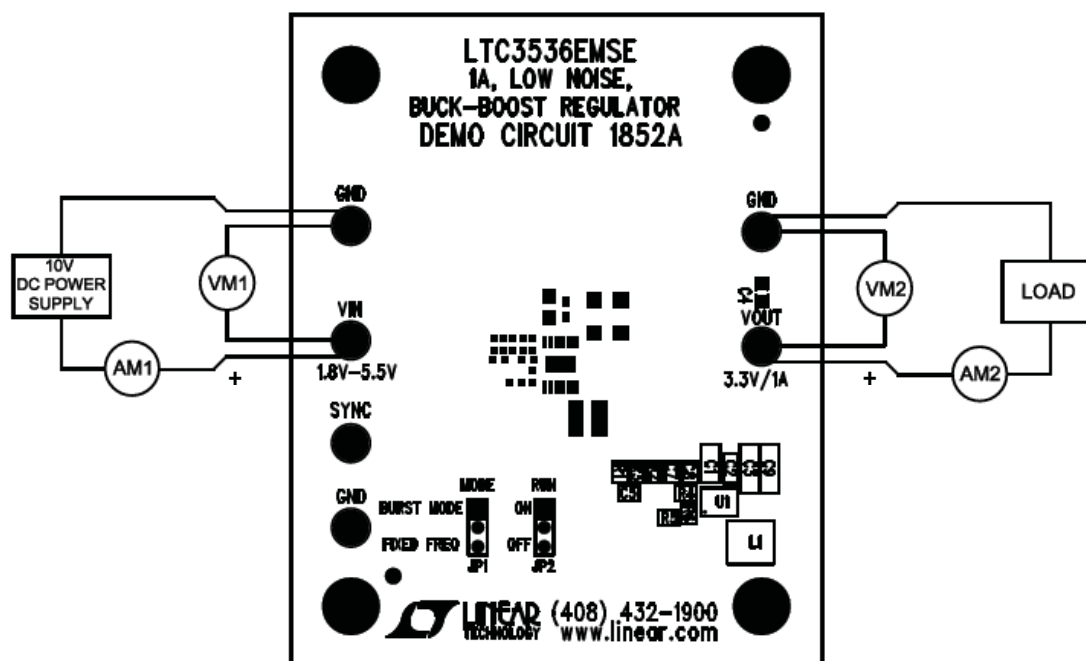

Figure 1. Proper Measurement Equipment Setup
Demonstration circuit 1852A is easy to set up to evaluate the performance of the LTC3536. For proper measurement equipment configuration, set up the circuit according to the diagram in Figure 1. Before proceeding to test, insert shunts into JP1 FIXED FREQ and JP2 OFF positions, which connects the RUN pin to ground (GND), and thus, shut down the circuit.
1. With the DC1852 set up according to the proper measurement and equipment in Figure 1, apply 5V at V_{IN} . Measure V_{OUT} ; it should read 0V. If desired, one can measure the shutdown supply current at this point. The supply current will be approximately 3 μ A, or less, in shutdown.